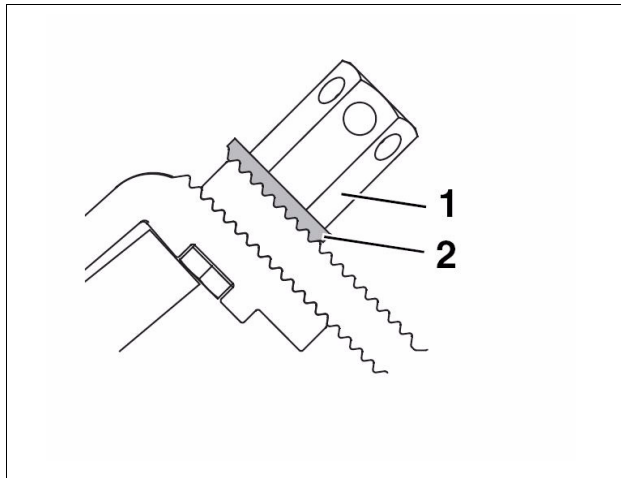

Fig. 17 Toothed washer must engage with the toothed hook when tightening the nut
- ▶ Tighten the long hex-nut (Fig. 17, [1]). To do this, insert the size 5 Allen wrench into the hole in the hex-nut and turn.